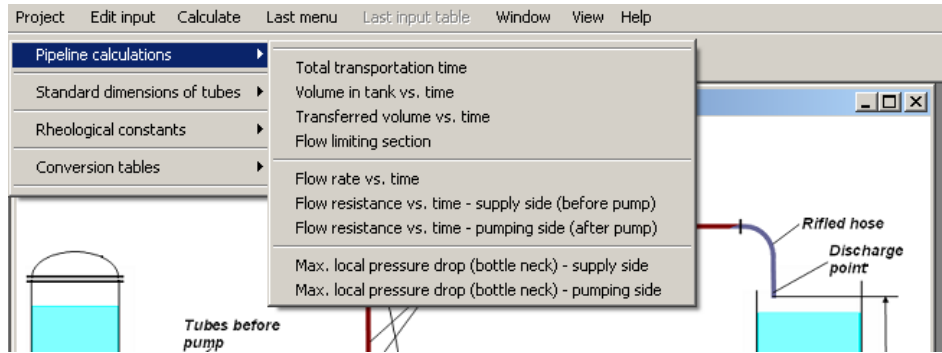

Figure 18.
3.1. In order to perform calculations, click **Calculate** in the main menu and select **Pipeline calculation>Total transportation time** (Figure 18).